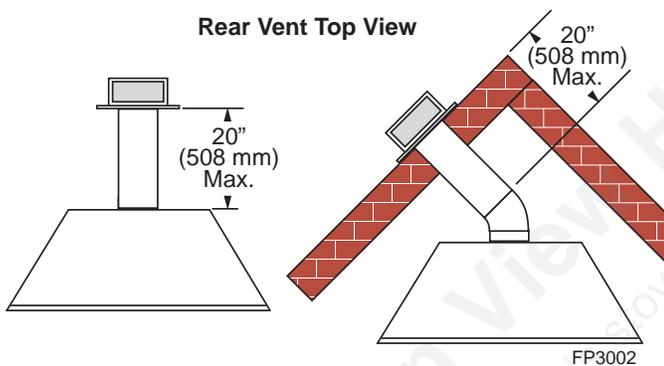

Figure 23 –
- The maximum horizontal distance between the rear of the appliance (or end of the transition elbow in a corner application) and the outside face of the rear wall is 20" (508 mm). *Figure 23*